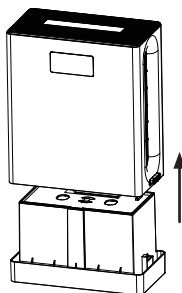

Figure 2
3. Then pull the instrument housing upward as shown in Figure 2.